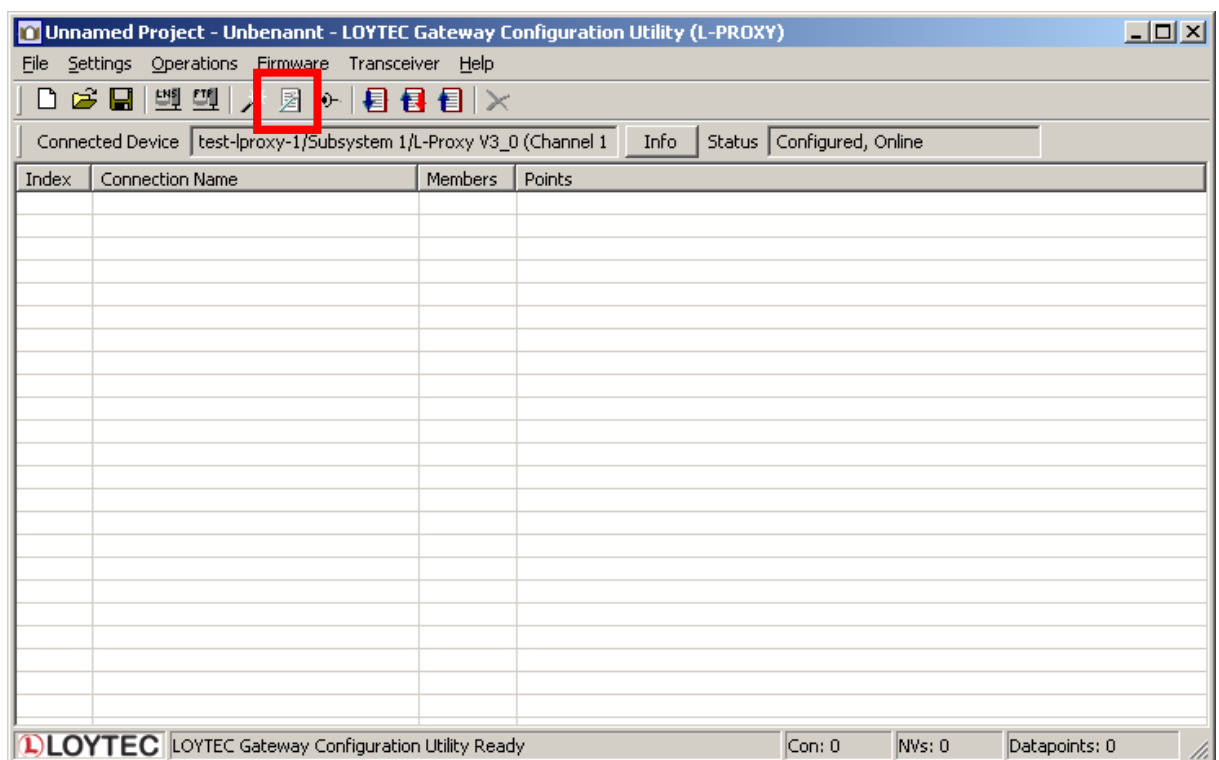

Figure 16: Main screen of the L-Gateway configuration software.
Then open an LNS database and add an L-Proxy device for Port 1 (FT) using the installed XIF files (e.g., L-Proxy V3_0 FT-10). Configure the added device with the L-Gateway LNS plug-in. This opens the main connections screen of the software as shown in Figure 16. Note that the device status is displayed as “Configured” on the right-hand side below the tool bar.